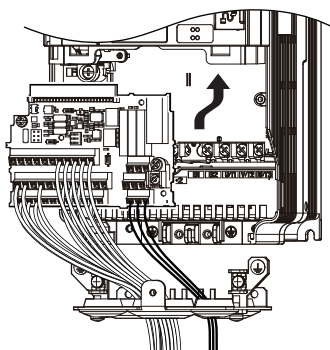

Figure 7.61 Drive Replacement: Installing the Terminal Board
1. Once the main circuit has been wired, connect the terminal block to the drive as shown in *Figure 7.61*. Use the installation screw to fasten the terminal block into place.